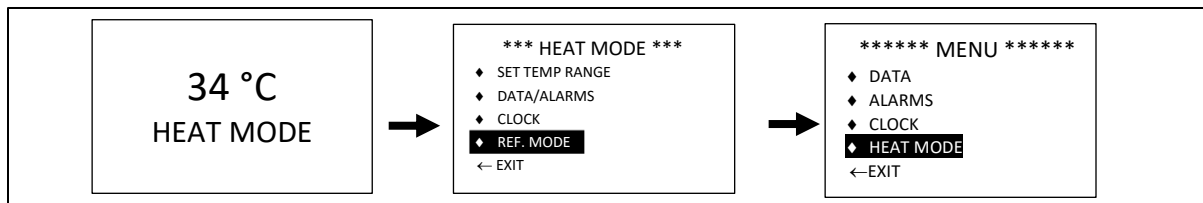

Figure 19: Return to REFRIGERATION MODE from HEAT MODE
- Press MENU/SELECT and use ▲ and ▼ to highlight and select REF. MODE as shown in Figure 19